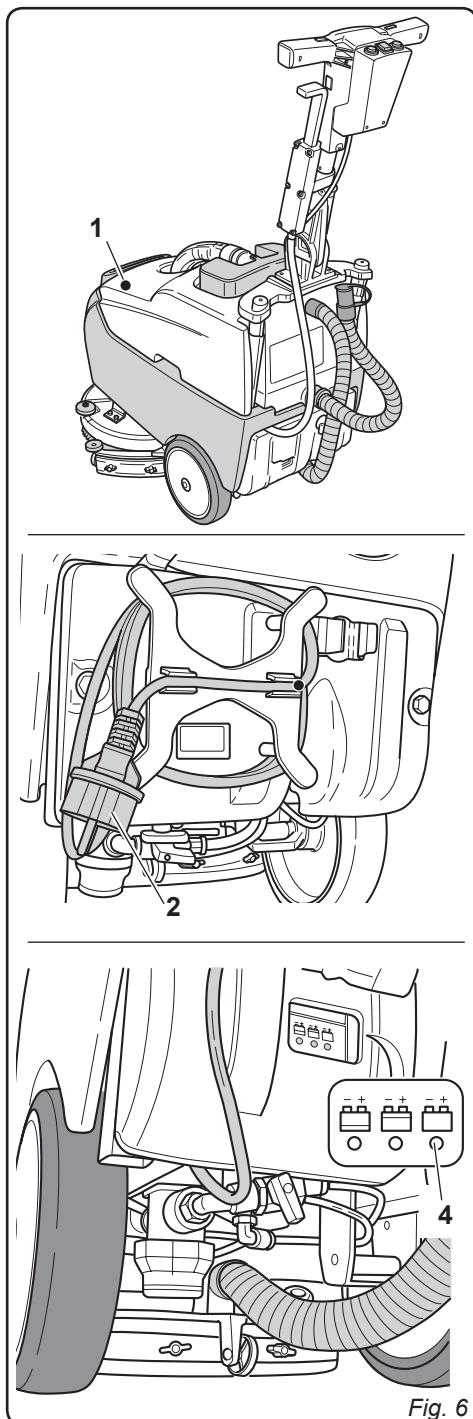

Fig. 6
4.1 CHARGING THE BATTERY (Fig. 6) (for CB version only)